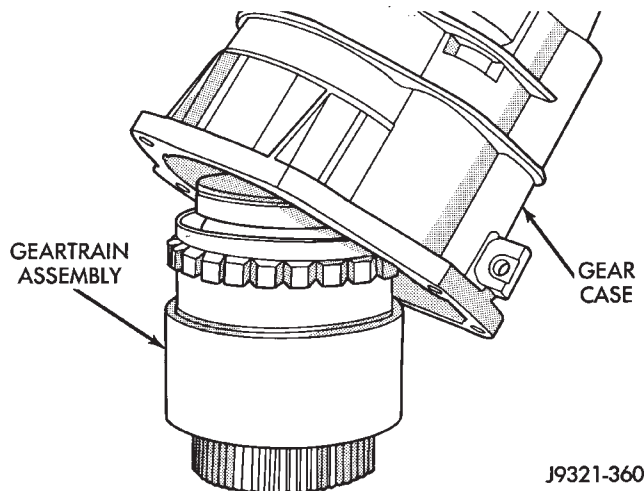

Fig. 204 Removing Gear Case From Geartrain Assembly
(6) Lift gear case up and off geartrain assembly (Fig. 204).